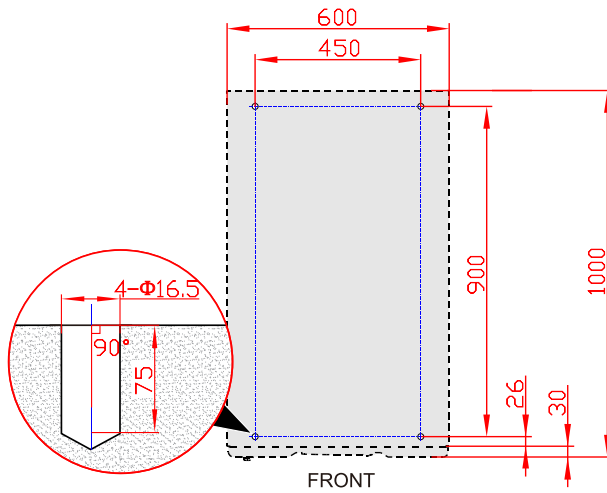

Figure3-17 Bottom installation size (bottom view of pedestal)
Step 2 Drill 4 holes of $\Phi 16.5$ by hammer drill according to the installation size of pedestal (as shown in Figure3-17).